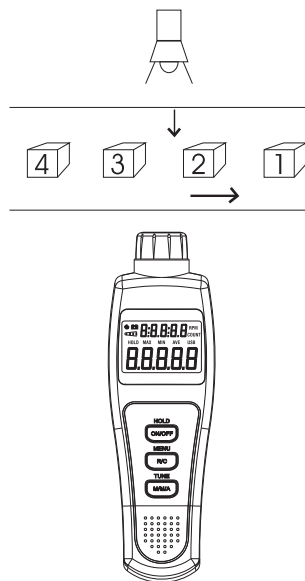

Figure 5
### Receiving Light Source Outside (see figure 5)
2. Set up the Meter, object under counts and outside light source as figure 5